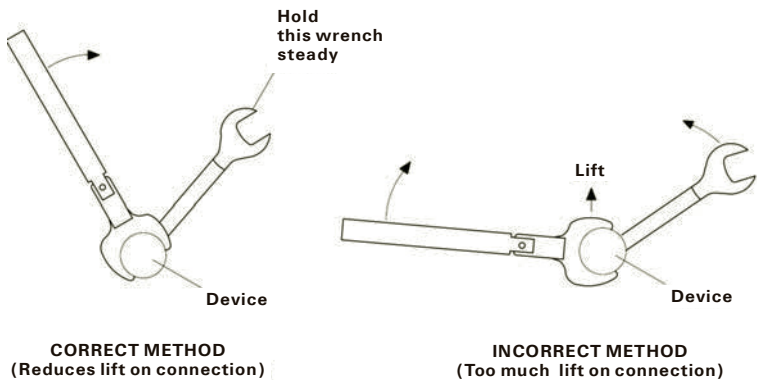

Figure 3-3 Wrench Positions
- 3 Position both wrenches within 90 degrees of each other before applying force. See Figure 3-3. Wrenches opposing each other (greater than 90 degrees apart) will cause a lifting action which can misalign and stress the connections of the devices involved. This is especially true when several devices are connected together.